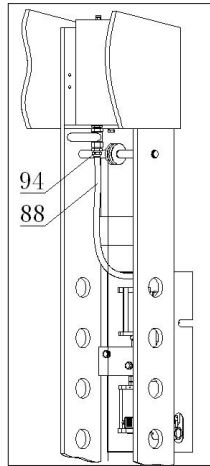
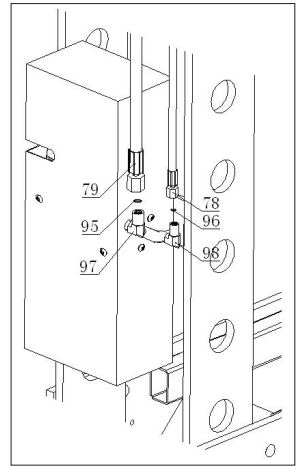

Fig.10
Fig.11
- Assemble oil hose :Fig.08 ( CP86750 ), Fig.10 ,Fig.11 ( CP86100 ).